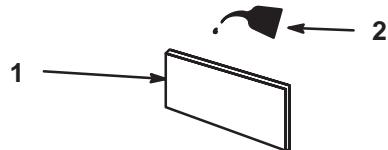

Figure 20
- C. Soak the element in new engine oil. (Fig. 20). Squeeze the element to remove excess oil.